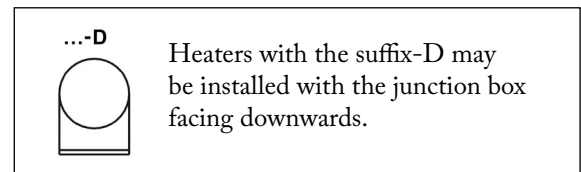

fig. 3
- Installation / mounting with the junction box facing downwards is not permitted. Heaters with the suffix...-D may be installed with the terminal box facing downwards, as they are specially designed for this installation position; see Figure 3.